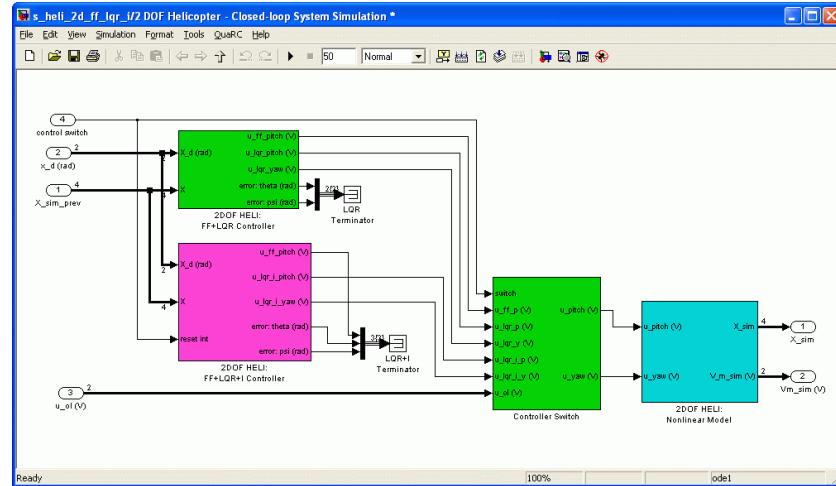

Figure 5.3: Closed-loop simulation of 2 DOF Helicopter
4. The interior of the *2DOF Helicopter - Closed-loop System Simulation* subsystem is shown in Figure 5.3. The LQR and LQR+I control blocks along with the nonlinear model are described in Section 5.1. The *Controller Switch* subsystem implements the logic to switch between the FF+LQR and FF+LQR+I controllers and between the pitch and yaw open-loop modes.